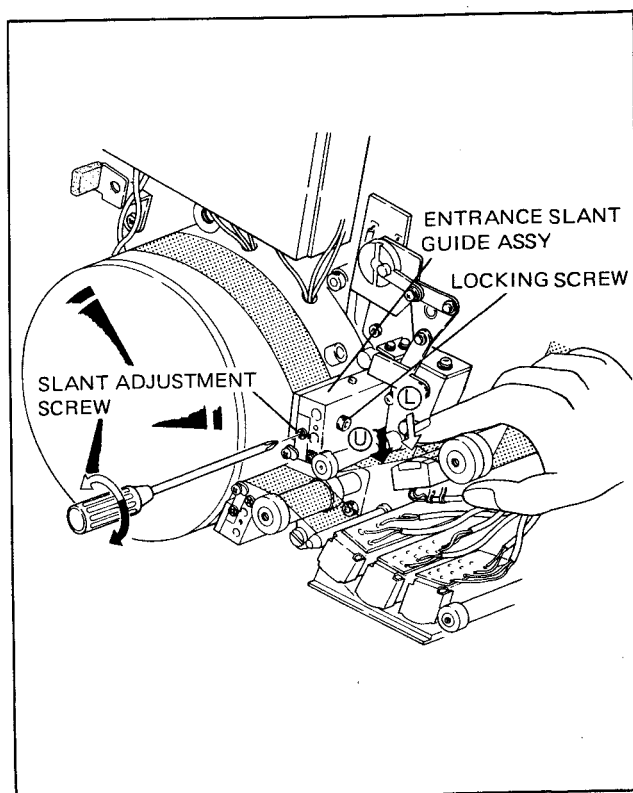

Fig. 10-14-2. Slant Adjustment of Entrance Slant Guide
- a By pushing ① or ② point of the running tape lightly as shown in Fig. 10-14-2, find out the side whose RF waveform is similar to (a) of Fig. 10-14-1.
12. Lightly push **U** or **L** side of the tape shown in Fig. 10-14-2 and find out the side whose RF waveform on the tape entrance side becomes flat.